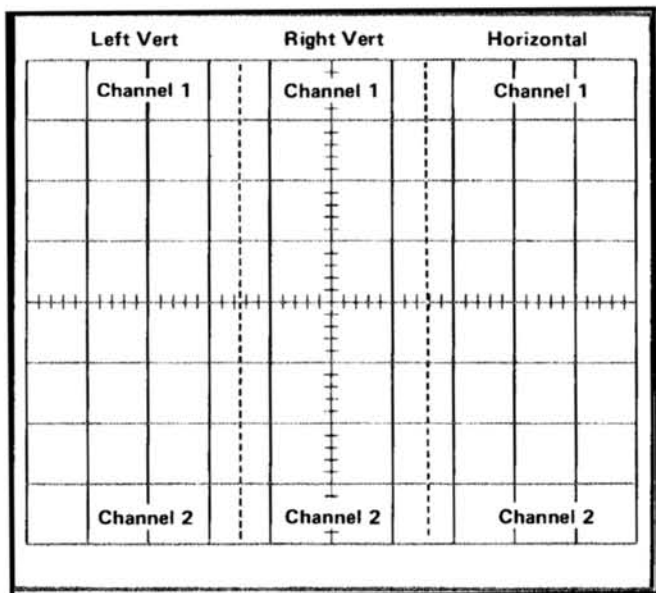
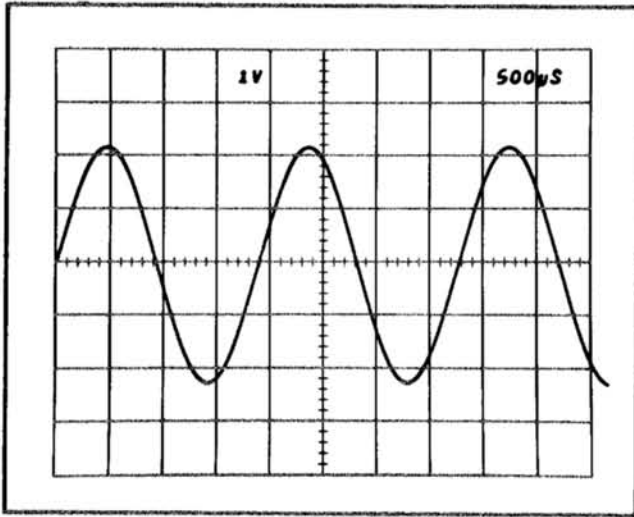

Fig. 3-24. Location of readout words on the CRT identifying the originating plug-in unit and channel (one complete frame shown, simulated readout).
Fig. 3-26. Typical readout display where only channel 1 of the Right Vertical and Horizontal unit is displayed.
Frame—A frame is a display of words for a given operating mode and plug-in combination. Up to six words can be displayed in one frame. Fig. 3-24 shows one complete frame (simulated readout) and the position at which each of the six words is displayed.
Display Format. Up to six words of readout information can be displayed on the CRT. The position of each word is fixed and is directly related to the plug-in unit from which it originated. Fig. 3-24 shows the area of the graticule where the readout from each plug-in unit is displayed. Notice that channel 1 of each plug-in unit is displayed within the top division of the CRT and channel 2 is displayed directly below within the bottom division. Fig. 3-26 shows a typical display.
The Character Generator stage produces the characters which are displayed on the CRT. Any of the 50 characters shown on the Character Selection Matrix of Fig. 3-24 can be addressed by proper selection of the column and row current. Only one character is addressable in any one time-slot; a space can be added into the displayed word by the Decimal Point Logic and Character Position Counter stage when encoded by the plug-in. The latter stage counts how many characters have been generated and produces an output current to step the display one character position to the right for each character. In addition, the character position is advanced once during each of time-slots 1, 2, and 3 whether a character is generated during these time-slots or not. This action fixes the starting point of the standard-format display such that the first digit of the scaling factor always starts at the same point within each word regardless of the information encoded in time-slot 2 (normal/invert) or time-slot 3 (cal/uncal) which precedes this digit. Also, by encoding row 10 and column 0 during any time-slot, a blank space can be added to the display. Decimal points can be added to the display at any time by addressing row 7 and columns 3 through 7 (see Character Selection Matrix for location of these decimal points). The Decimal Point Logic and Character Position Counter stage is reset after each word by the Word Trigger pulse.
The Format Generator stage provides the output signals to the vertical and horizontal deflection systems of the instrument to produce the character display. The binary Channel Address No. 2 code from the Channel Counter stage is connected to this stage so that the display from each channel is positioned to the area of the CRT which is associated with the plug-in and channel originating the word (see Fig. 3-24). The positioning current or decimal point location current generated by the Decimal Point Logic and Character Position Counter stage is added to the horizontal (X) signal at the input to the Format Generator stage to provide horizontal positioning of the characters within each word. The X- and Y-output signals are connected to the Horizontal Amplifier and Vertical Amplifier through the Horizontal Output and Vertical Output stages respectively.